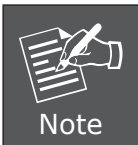

**Figure 7-3:** Web Main Screen of Industrial Managed Switch
3. After entering the password, the main screen appears as shown in Figure 7-3.